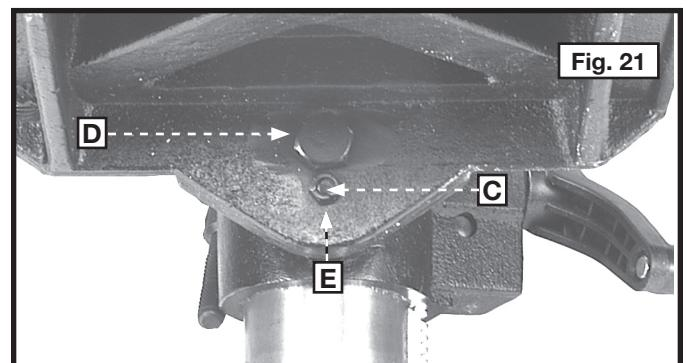

Fig. 21
3. You can tilt the table right or left by removing the table alignment pin (C) Fig. 21.